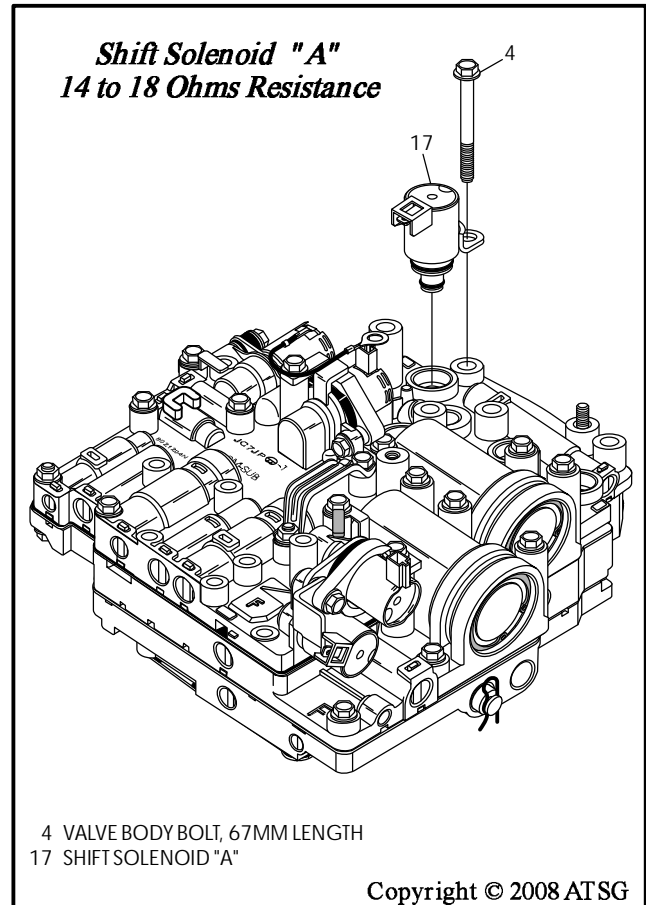

Figure 180
61. Install new "O" rings, lube with small amount of proper ATF, and install shift solenoid "A" into the valve body, using a 67mm bolt, as shown in Figure 180.